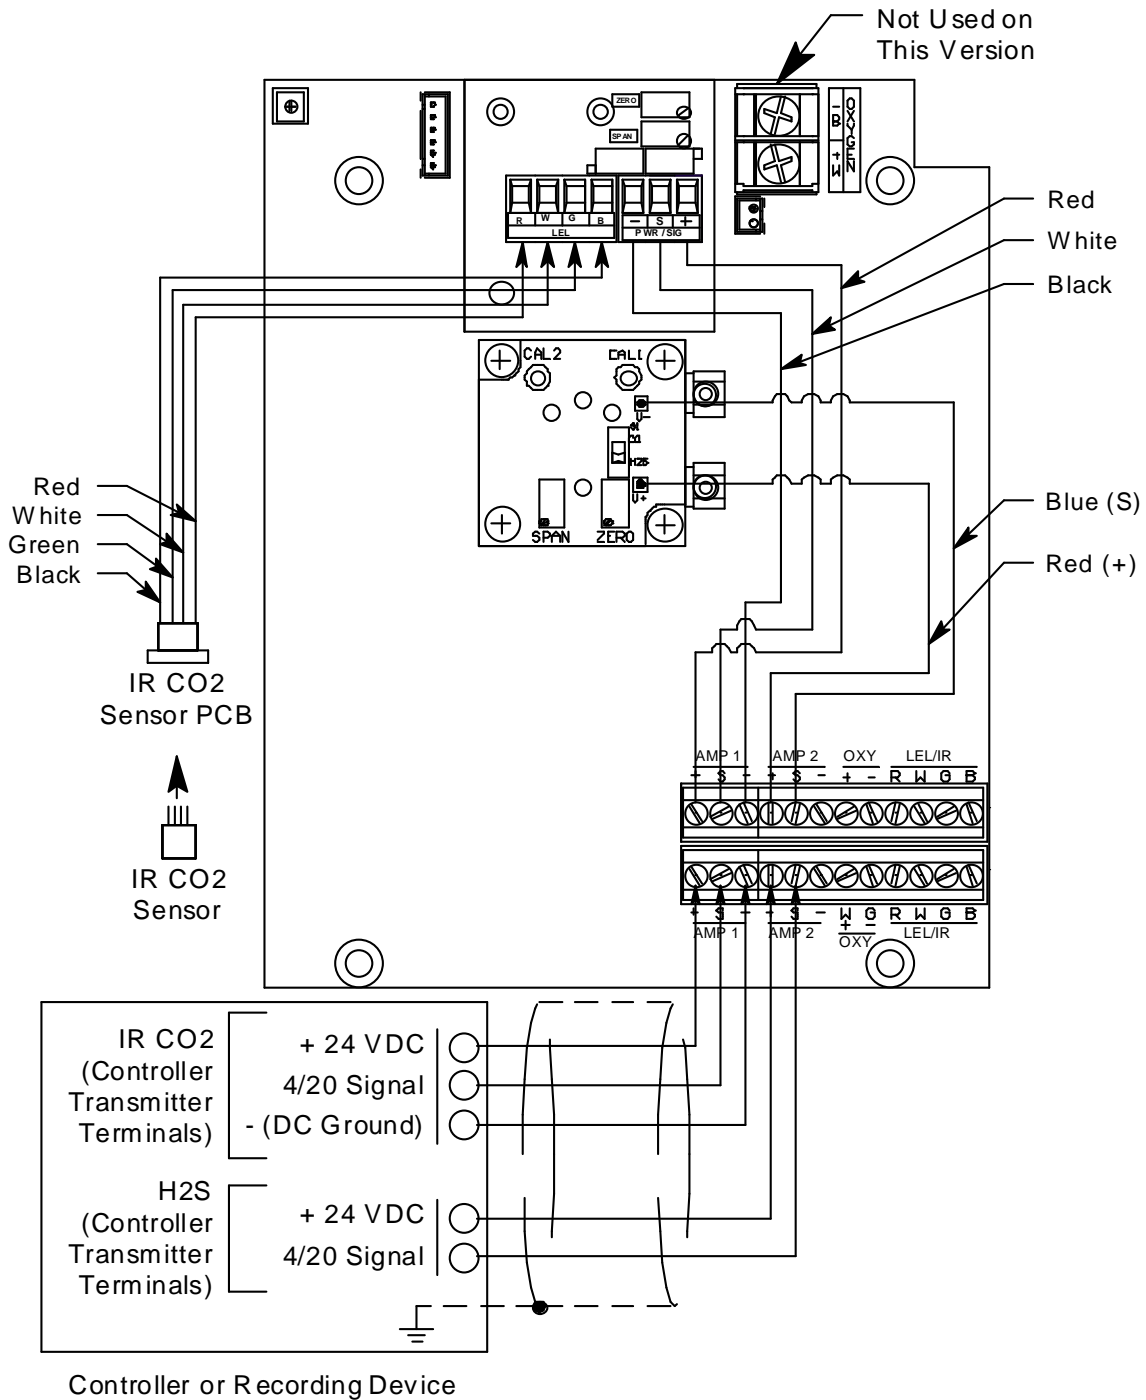

Figure 6: Wiring the Sample-Draw Detector to a Controller
5. Connect the cable to the sample-draw detector’s interconnect terminal strip as shown in Figure 6.
- Connect the wires to the applicable detector/transmitter terminal strip at the controller as shown in Figure 6. Refer to the controller operator's manual and the controller detector head specification sheet for the 35-3001A-12-02 for detector/terminal strip connections specific to the controller.